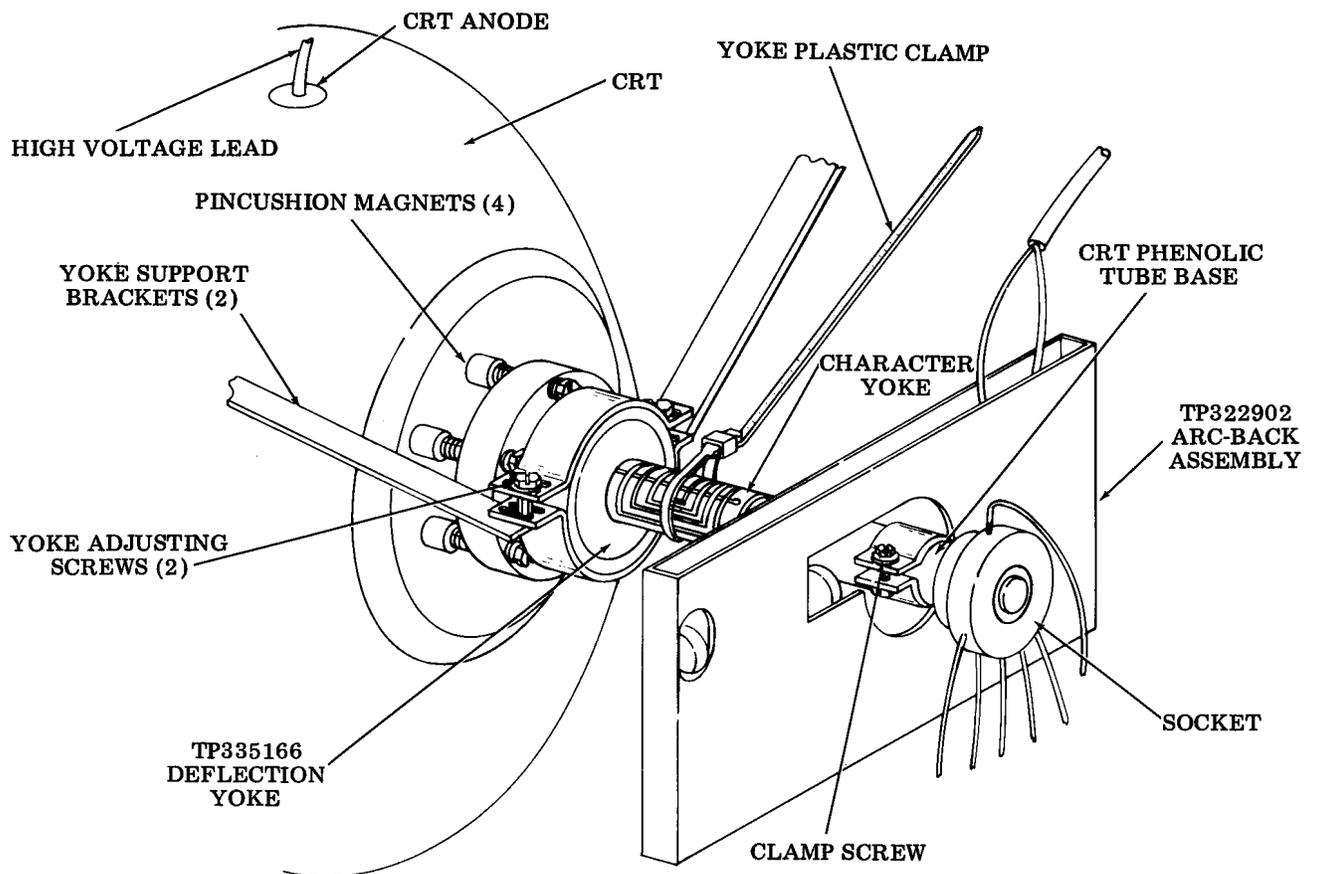

Figure 8 - CRT Deflection Yoke (Early Design)
2.25 Main Yoke (Figure 8)
2.26 Character Yoke (Figure 8)
2.27 Pincushion Magnets (Figures 8 and 9)